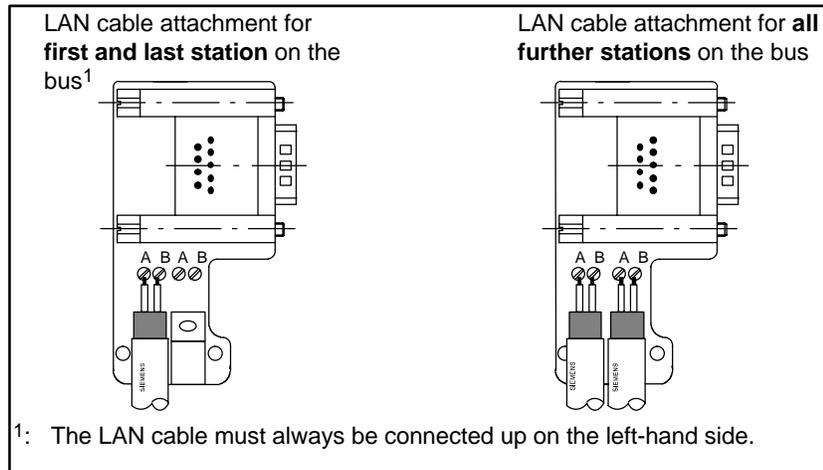

Figure 4-17 Connecting the LAN Cable to the Bus Connector (6ES7 972-0B.11 ...)
3. Insert the green and red cores in the screw terminal as shown in Figure 4-17.